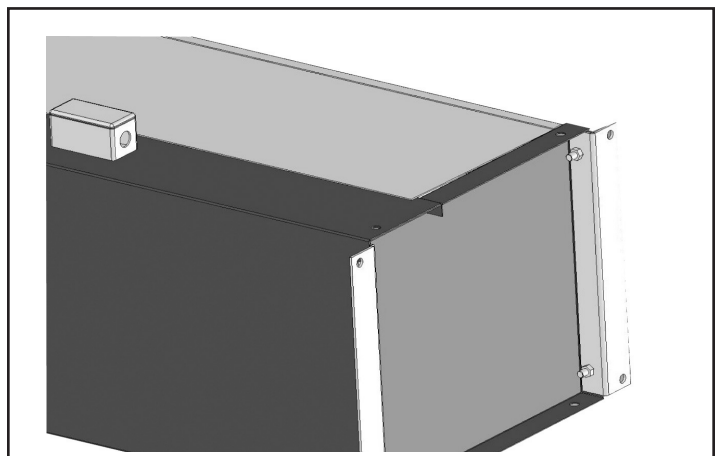

FIGURE 5 - Floor Mounting Brackets
- C. To vertically mount a IDC12/IDC14 Series unit using optional Floor Mounting Brackets, bolt brackets on the inside of the end plate with (4) $\frac{1}{2}$ - 13 bolts as shown in **Figure 5.**